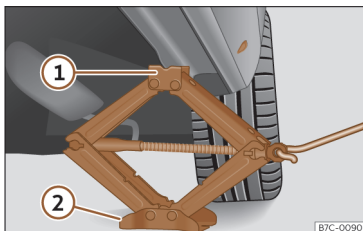

Fig. 238 Crossbar: mounting the jack on the vehicle.
- Turn the jack crank handle, located below the strut support point, to raise it until the tab ① >>> **Fig. 238** is below the housing that is provided.
- Align the jack so that the tab ① “grips” onto the housing provided on the cross member and the mobile base ② is resting on the ground. The base plate ② should fall vertically with respect to the support point ①.